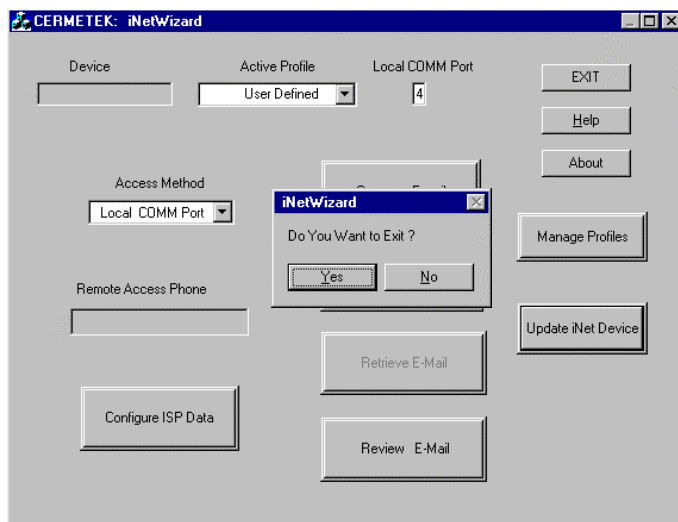

Figure 15. iNetWizard® Termination Window.
Step 2. A pop-up “Do You Want to Exit?” dialog box will appear (see Figure 15). Single Click on YES to terminate the current **iNetWizard®** session and return to the MS Windows desktop screen.